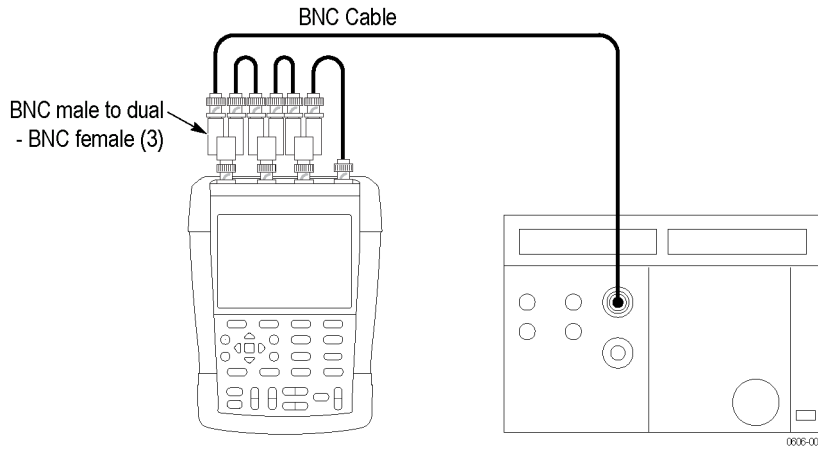

Figure 11: Input LF-HF gain test setup
2. Connect the instrument to the 5500A as shown. (See Figure 11.)